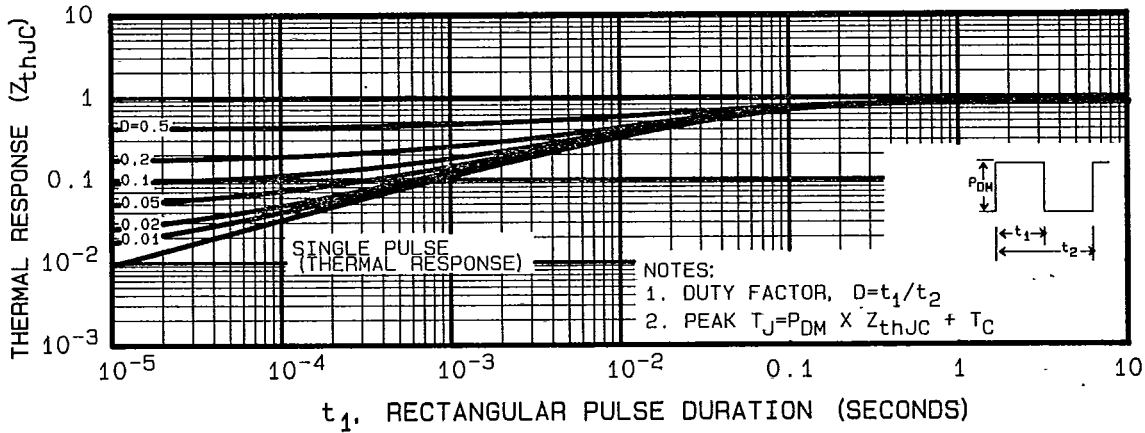

Fig. 5 — Maximum Effective Transient Thermal Impedance, Junction-to-Case Vs. Pulse Duration
- ① Repetitive Rating; Pulse width limited by maximum junction temperature (see figure 5)
- ② @  $V_{DD} = -25\text{V}$ , Starting  $T_J = 25^\circ\text{C}$ ,  $L = 5.1\text{ mH}$ ,  $R_G = 25\Omega$ , Peak  $I_L = -9.9\text{A}$
- ③  $I_{SD} \leq -9.9\text{A}$ ,  $di/dt \leq -120\text{ A}/\mu\text{s}$ ,  $V_{DD} \leq 40\text{V}$ ,  $T_J \leq 150^\circ\text{C}$ , Suggested  $R_G = 18\Omega$
- ④ Pulse width  $\leq 300\ \mu\text{s}$ ; Duty Cycle  $\leq 2\%$
- ⑤  $K/W = \text{ }^\circ\text{C}/\text{W}$